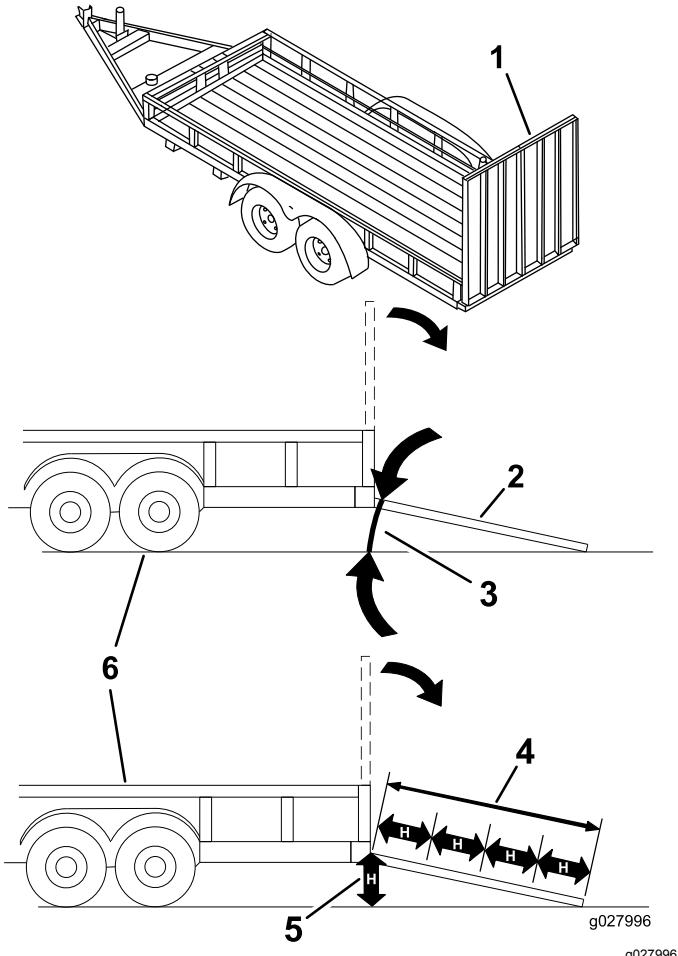

Figure 34
Loading a machine onto a trailer or truck increases the possibility of tip-over and could cause serious injury or death (Figure 34).
3. Lower the ramp, ensuring that the angle between the ramp and the ground does not exceed 15 degrees (Figure 34).